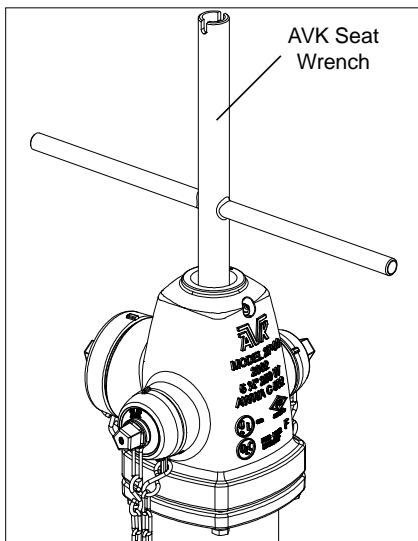

Fig. 7D
5. Remove the Stop Nut (F11) with the deep socket located at the end of the AVK seat wrench. CAUTION: Do not overtighten the Stop Nut (F11), during re-assembly! (See Fig. 7D)